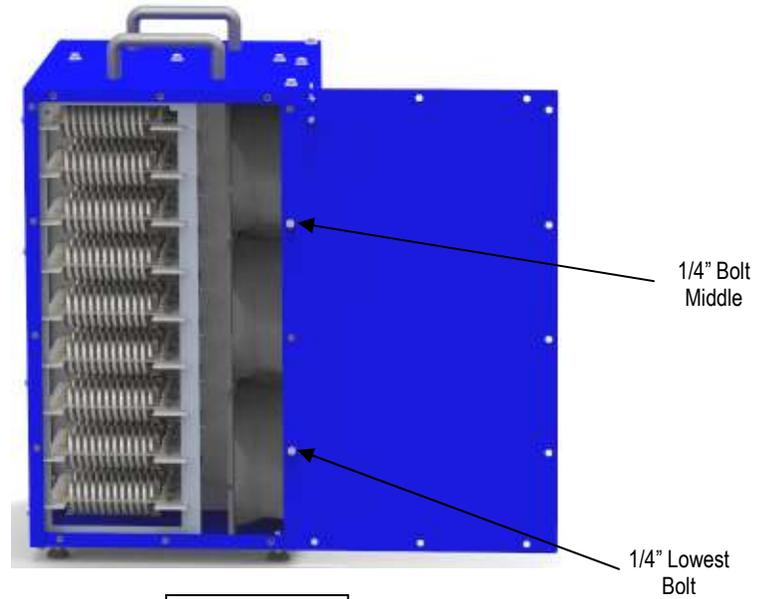

Figure 11b
- Carefully rotate the back panel as shown in figure 11b making sure not to damage the ground wire.
- Attach one bolt to the second and fourth hole down on the load bank as shown in figure 11b.